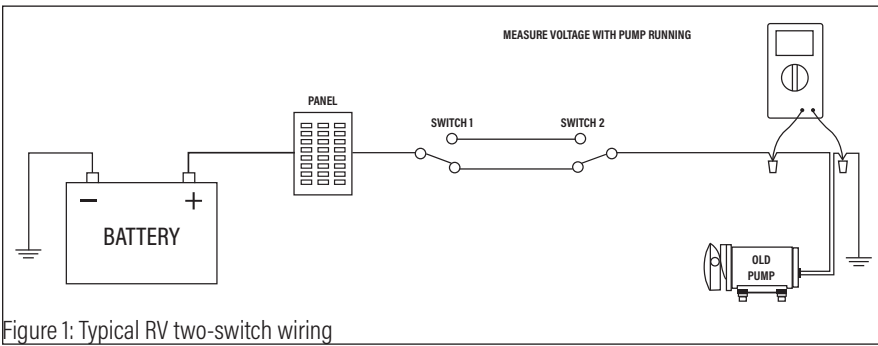
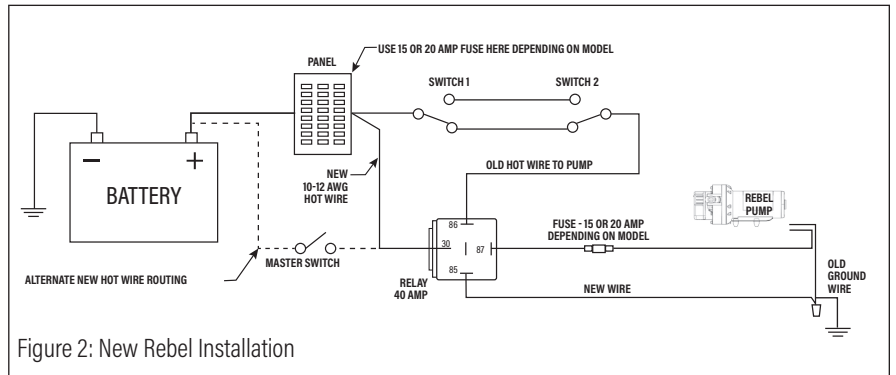

Figure 1: Typical RV two-switch wiring
Figure 2: New Rebel Installation
If the voltage drop with your existing pump (typically 5 Amps) exceeds 1 Volt you will need to pull a new heavier (10-12AWG) 'hot' wire to the pump AND use a 40 amp relay (referenced in section 1b above) to connect your Rebel pump (see Figures 1 and 2, page 4).
5. At the end of your survey you should have determined how to wire the Rebel pump. Your alternatives are illustrated in Figure 1, page 4 ("no change," also applicable for single switch systems), Figures 2, 3 or 4, page 4 or Figure 8, page 5. You should also have determined how to plumb the pump. Your options are Figures 5, 6 or 7, page 5. Always make sure you have all hardware needed before you start the actual installation.
6. Steps 1 and 2 of the earlier 'Installation Planning' section should have determined the applicable wiring method. As appropriate, wire the Rebel pump as per Figures 1, 2, 3, 4 or 8, pages 4-5.